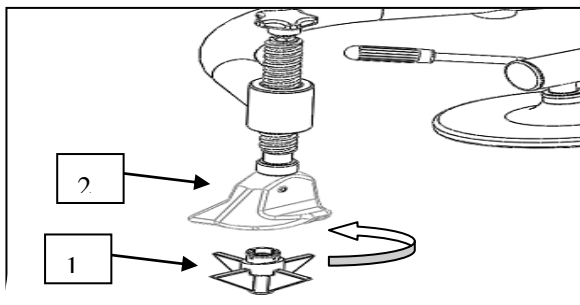

FIG 34
6.2.2 First, position the claw according to the dimension of the tire and then clamp the rim by the claw and position the tire press cone roller at the center of the rim (FIG 34). Push down the manual valve to press down the rim until the external rim of the rim is lower than the surface of the claw. At this moment, you can immediately lock the rim. Lift up the support arm and place it at the working position and take off the press cone roller and place it on the support.